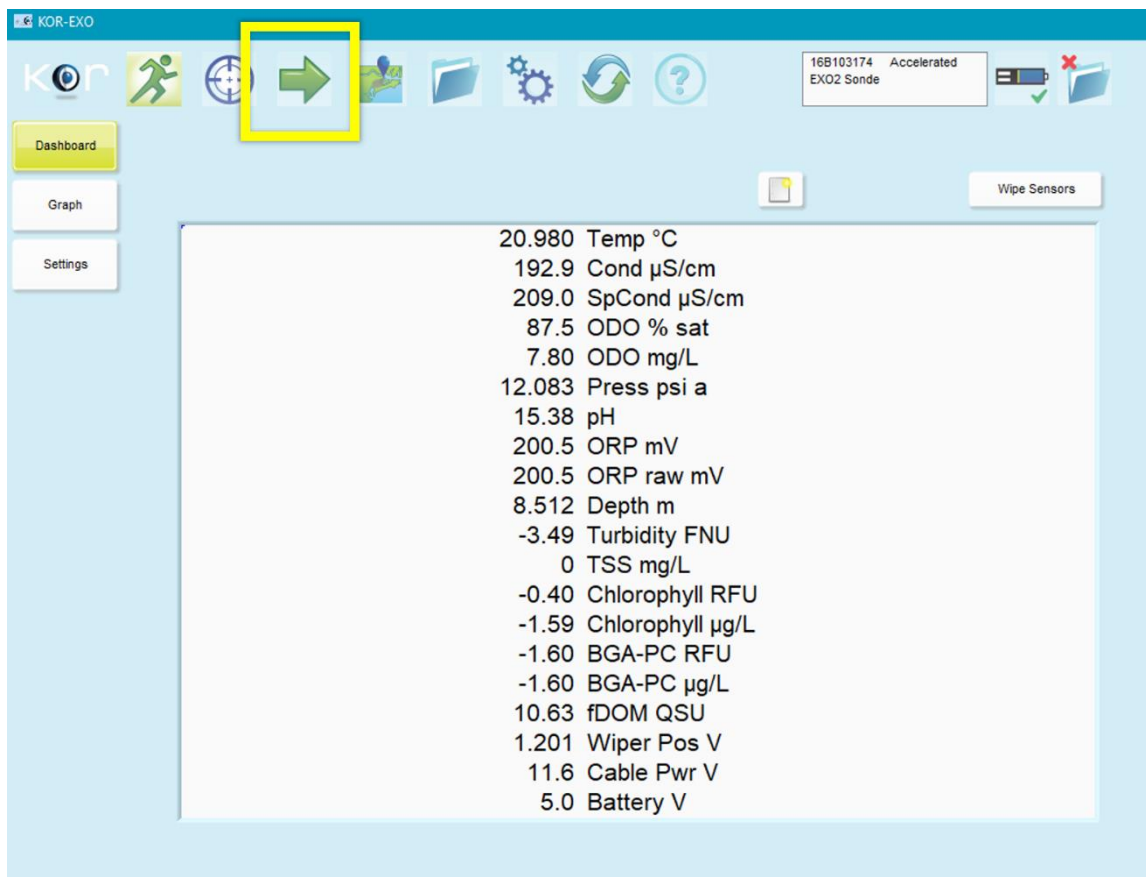
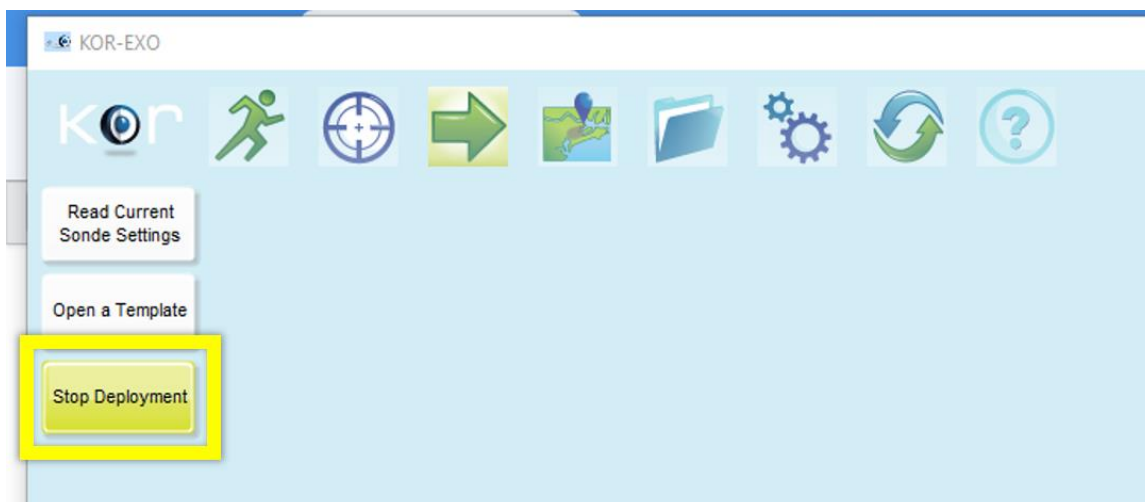

Figure 3. Navigate to Deployment Settings
Figure 10. Click “Stop Deployment” to Stop the Multisonde from Collecting Data
1. Open the KorEXO software on your laptop and navigate from the Menu bar to the **Deployment Settings** (click on the green arrow icon in **Figure 3**).
1. Open the KorEXO software and navigate to Deployment settings, reference Step 1 in Section 4.3, Figure 3. Navigate to Deployment Settings. Click **“Stop Deployment”** to stop the Multisonde from collecting data (Figure 10).